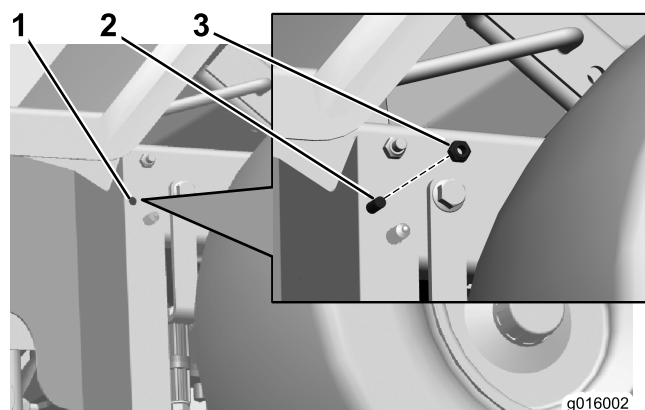

Figure 6
2. Drill a hole in the frame just in front of the left rear wheel. Use the open hole in the left frame belt guard as a guide; see Figure 6.
3. Install the hex bolt and locknut as shown in Figure 6.